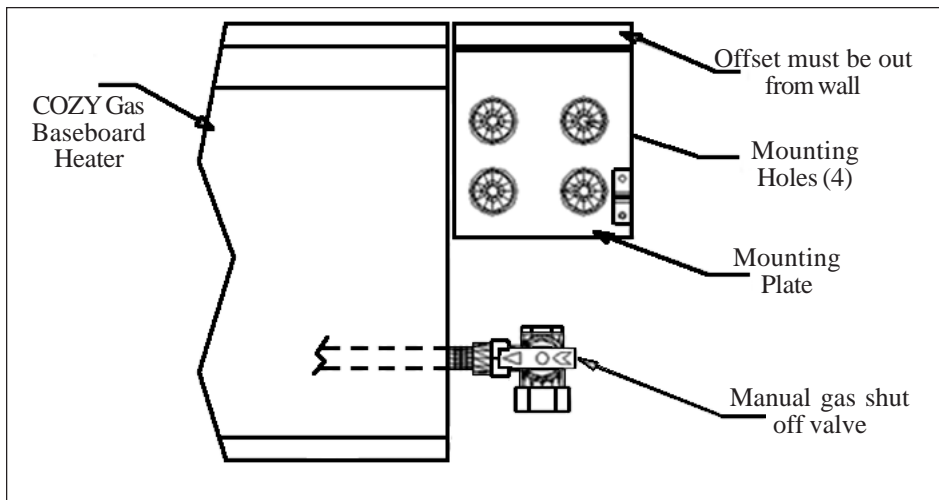

FIGURE 1
STEP 2. Verify air intake tube extends 1-1/2" past surface of outside wall and the vent exhaust tube extends 2-1/2" past surface of outside wall. See Figure 1.
- STEP 1.** With the offset up and out from the wall, place the mounting bracket flush to the right side of the heater cabinet. Align the top of the mounting plate with the top of heater cabinet. Mark the location of the mounting holes. See Figure 1.
- STEP 1.** Place the mounting plate against the wall and flush with the bottom of the gas baseboard heater. The mounting plate must cover the manual gas shut off valve. See Figure 1. Mark the location of the mounting holes.
NOTE: This kit has been designed and certified for use with a Cozy gas baseboard heater only. Use only factory supplied kit and components. See Figure 1 for parts list of Vent Weather Seal Kit.
- STEP 1.** Change the location for the vent by following Figure 1 in the installation and operating instructions provided with the Cozy gas baseboard heater.
- STEP 2.** Drill a three (3) inch diameter hole through the wall of the chosen location.